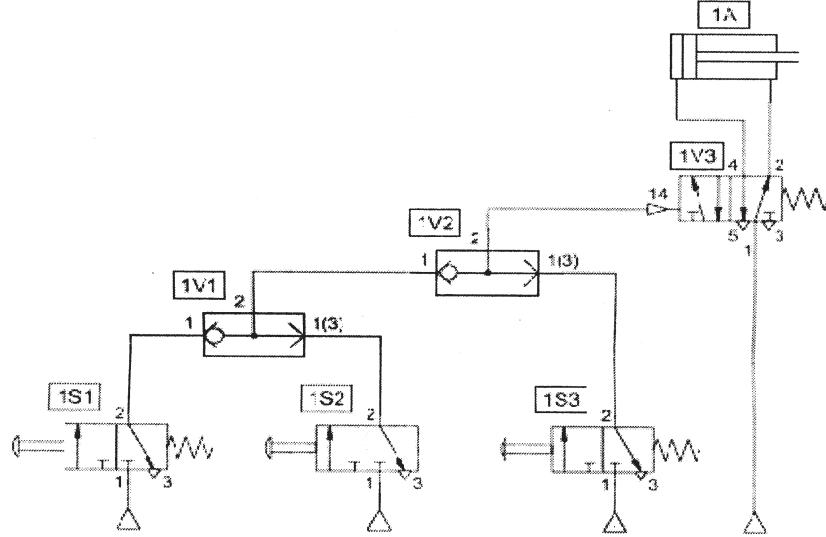

Figure 8b
- b)** Analyze the circuit shown in Figure 8b. [6]